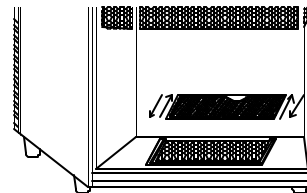

Fig. 1
*To remove the air filter, grasp the filter sides and slide the air filter out. (See Fig. 1)*